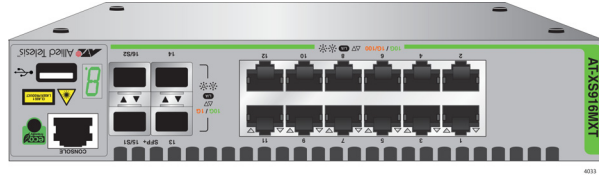

Figure 17. Turning the Switch Upside Down
2. Place the unit upside down on a level, secure surface. See Figure 17.